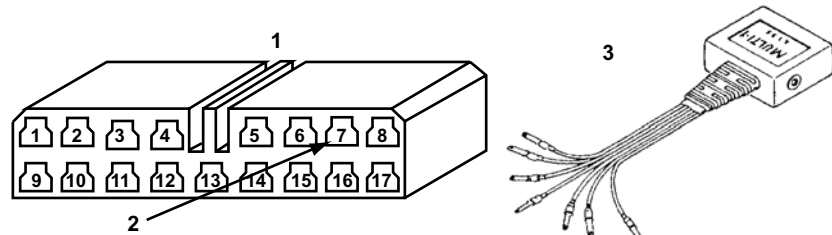

Figure 15-27 17-pin Check connector
- b. If the Check connector is 17-pin, connect the blue wire of the MULTI-1 adapter to pin 7 of the Check connector (Figure 15-27).